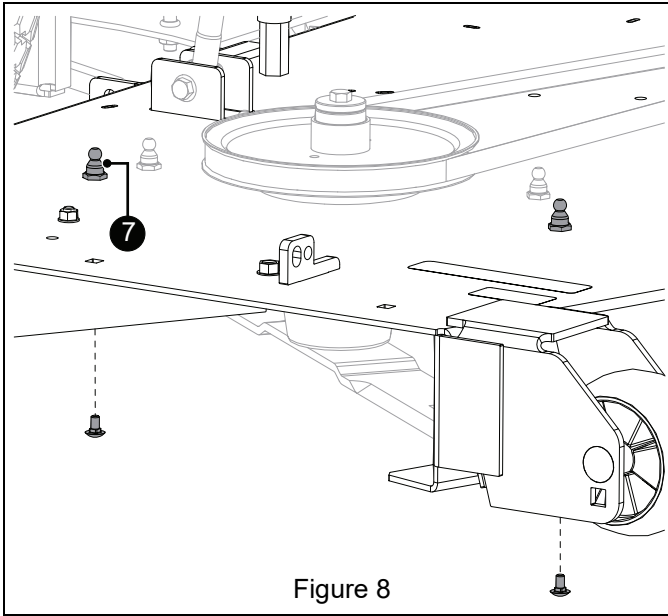

Figure 8
9. Attach two threaded ball studs (item 7) to deck using bolts just removed. See Figure 8.